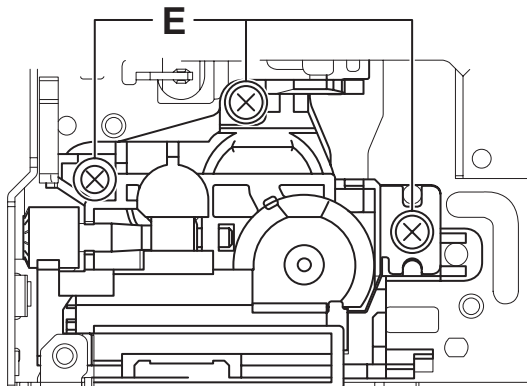

Fig.12
3.2.6 Removing the Loading motor assembly (See Fig.12)